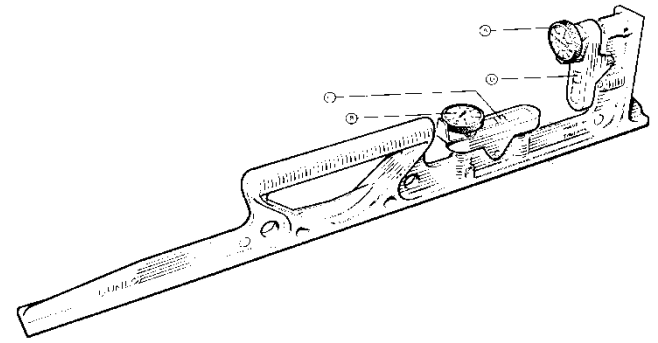

Figure 5 Camber gauge
The level of the floor should be checked with a Dunlop CG/4 camber gauge (**Figure 5**) by placing the gauge on the floor in the direction in which it is desired to check the floor level, adjusting the dial (B) to centre the bubble in the spirit level (C). The angle of inclination is read from the scale on the dial (D).